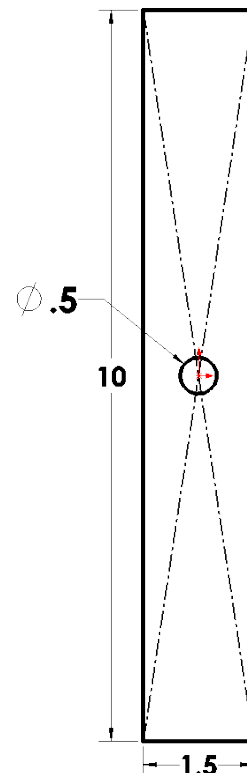

Fig. 3
Step 1. Click **Circle**  (S) on the Sketch toolbar.
Step 2. Draw a circle starting at the Origin , **Fig. 3**.
Step 3. Click **Smart Dimension**  (S) on the Sketch toolbar.
Step 4. Dimension circle **diameter .5**, **Fig. 3**. The circle will represent the 1/2 inch rod of beam "tester".